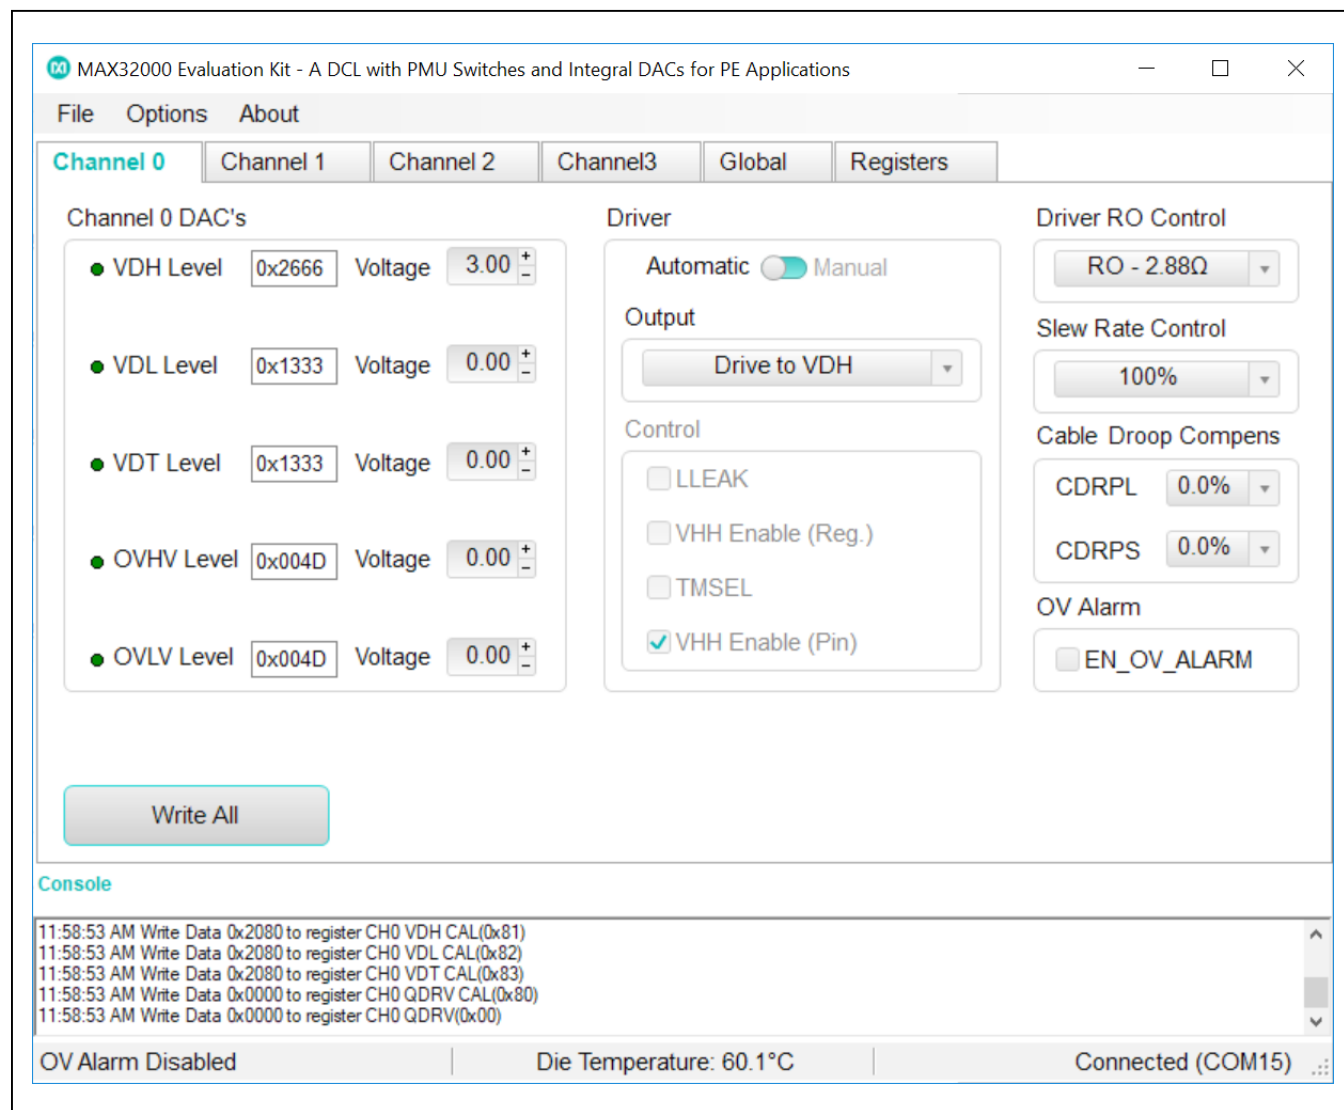

Figure 1. MAX32000 GUI Quick Start Settings (Channel 0 Tab)
- 9) Put the EV kit into drive mode by setting the register values as shown on the Channel 0-tab seen in Figure 1. In this mode, VDH is set to 3V and VDL to 0V for Channel 0.